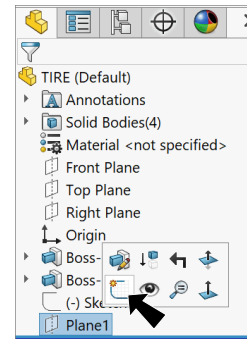

Fig. 24
Step 3. Click **Plane1**  in the Feature Manager and click **Sketch**  on the context toolbar, **Fig. 24**.